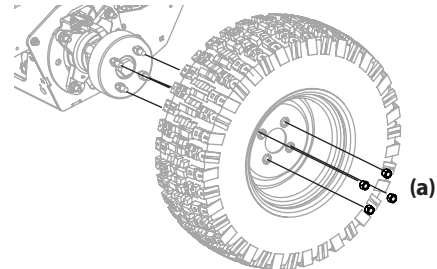

Figure 27
1. With the tires on the ground, loosen, but do not remove the four lug nuts (a) (Figure 27).